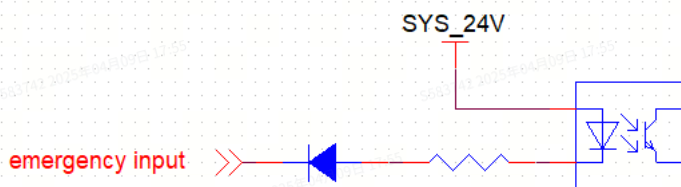

Figure 2-5
- See "Figure 2-5" for the logic diagram of emergency stop input.